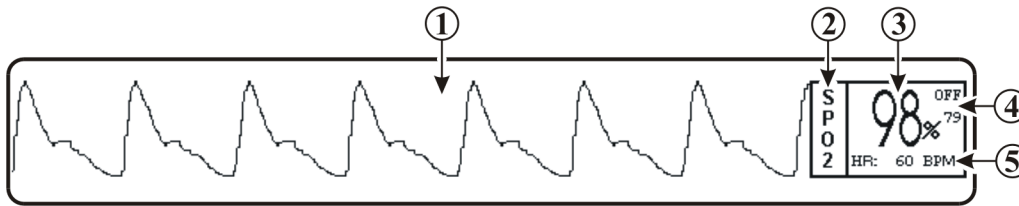

Figure 4-10. SpO2 Display
4.3.2 Associated Waveforms and Displays (See **Figure 4-10**) If the SpO2 is turned on the waveform is displayed in Trace Location C and the numerical information in Box 2. The following is a description of the items contained within the SpO2 Display: